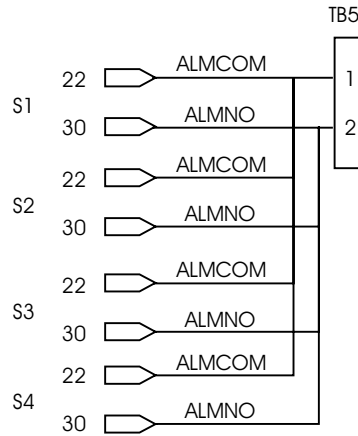

Figure 12. System Alarm (TB5) Pin Assignments
When HLU-431 line units are installed in the HRE-204 List 1 and List 2, the system alarm relay contacts for each slot, Normally Open (NO) and Common (COM), are bused together and made available on the Euro style terminal block TB5. Figure 12 shows the TB5 pin assignments.